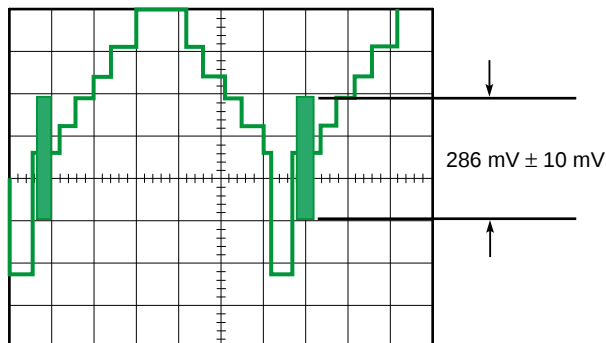

Fig. 4-6
- Adjust data with the **ARROW** keys so that the Burst level becomes $286 \text{ mV} \pm 10 \text{ mV}$ as shown in Fig. 4-6.